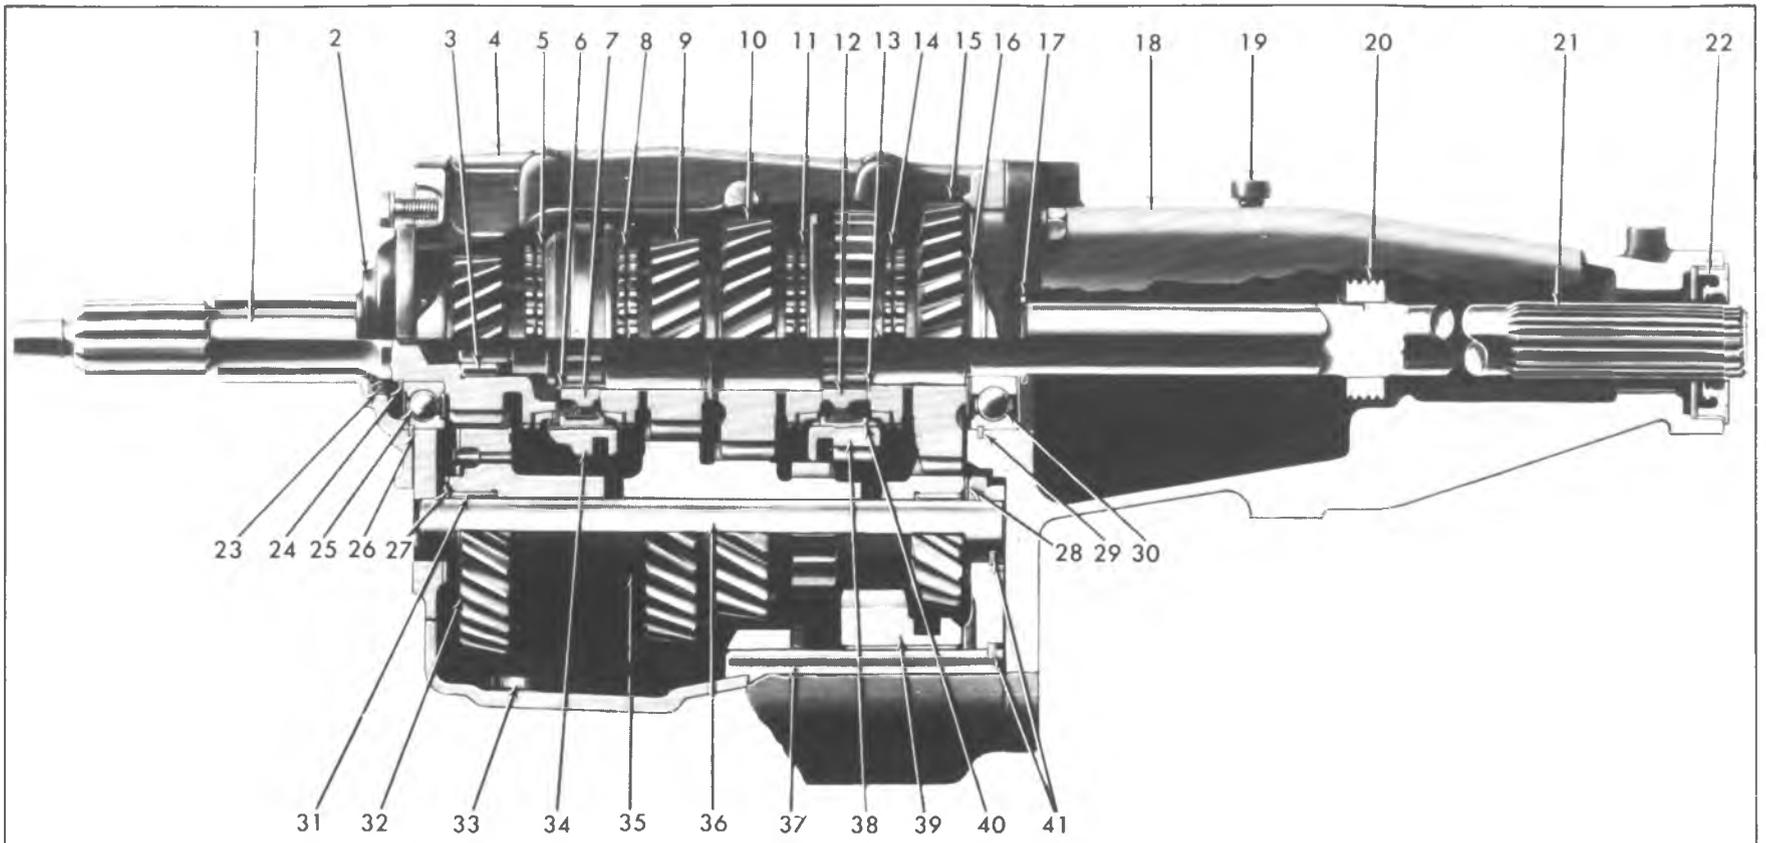

Fig. 7B-1-J-4-Speed 76mm Transmission Cross Section
- 3. Remove clutch gear bearing to gear stem snap ring, then remove clutch gear bearing by pulling outward on clutch gear until a screwdriver or other suitable tool can be inserted between bearing, large snap ring and case to complete removal (Fig. 7B-2J). The clutch gear bearing is a slip fit on the gear and into the case bore. This provides clearance for removal of clutch gear and mainshaft assembly.
- 5. Remove clutch gear, mainshaft and extension assembly together through the rear case opening (Fig. 7B-3J).
- 6. Using snap ring pliers, expand the snap ring in the extension which retains the mainshaft rear bearing (Fig. 7B-4J) and remove the extension.
- 7. Using J-22246 at the front of the countershaft, drive the shaft and its woodruff key out the rear of the case. Tool J-22246 will now hold the roller bearings in position within the counter gear bore. Remove the gear and bearings (Fig. 7B-5J).